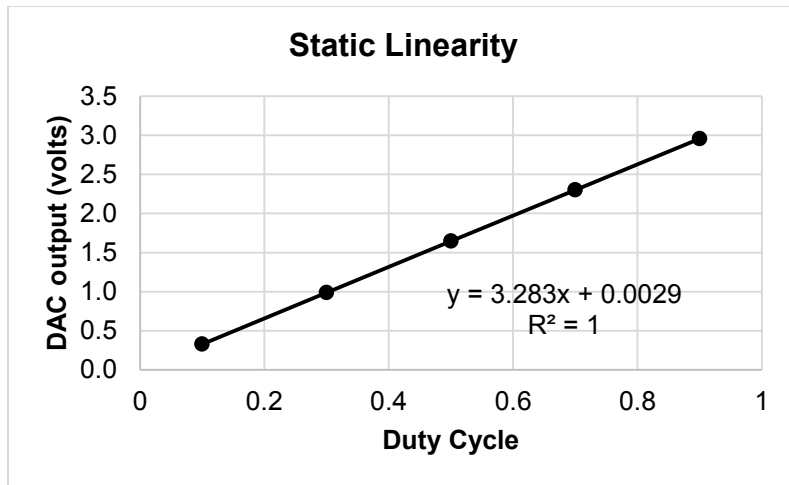

Figure 5. Example measurement data showing DAC linearity.
Run this program for five different duty cycles and plot the DC voltage as a function of duty cycle. Your data should look similar to Figure 5.
- Remove the noise in the PWM DAC (100 Hz ripple in Figure 5), by switching from 100 Hz PWM to 1000 Hz PWM (precision will drop from 13 bits to 10 bits)